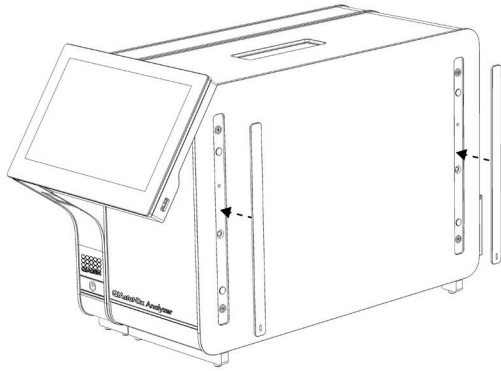

Figure 7. Reattaching the protective covers.
4. Reattach the protective covers on the side of the Analytical Module (Figure 7, next page).